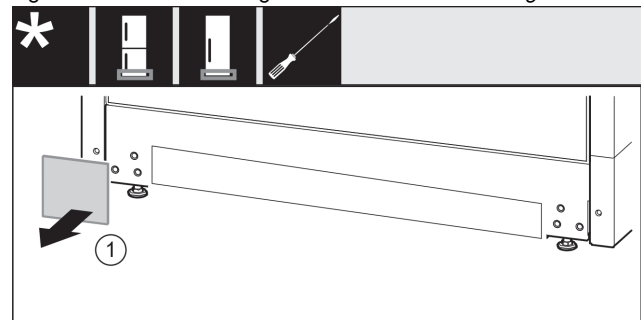

Fig. 15
- ▶ Take off the cover. Fig. 15 (1)